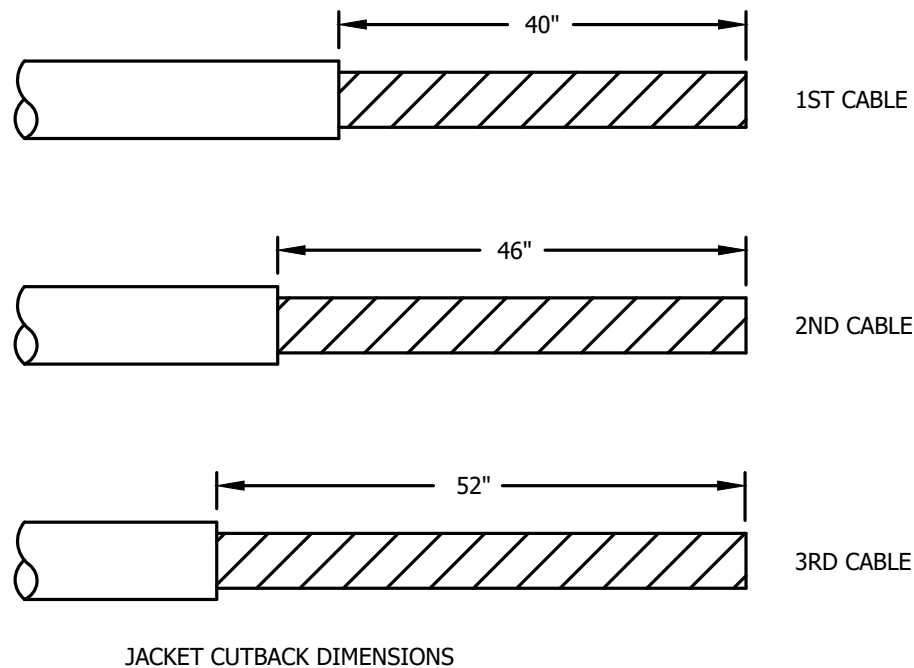

FIGURE 1
- FOR CABLE POLE RUNS OF 1000 KCMIL CABLE AND FOR OTHER RUNS OF 1000 KCMIL CABLE, WHEN A FEEDER TUBE IS USED IT IS NECESSARY TO REMOVE THE CABLE JACKET BEYOND THE END OF THE PULLING GRIP (SEE FIGURE 1). IF THE ENSLEY CABLE EYE IS USED REFER TO STANDARD PRACTICE #215.
1. PREPARE CABLES WITH STAGGERED JACKET CUTBACK AS SHOWN IN FIGURE 1.